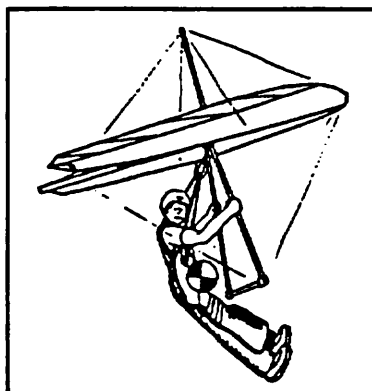

Figure 56
b) Improper body position - pilot leaning back, (away from the anticipated hard landing), with feet extended in front. (Figure 56) This moves the pilot's center of mass forward ahead of his shoulders, effectively shortening the pilot's arms and reducing flare authority. The proper position is with the pilot's body inclined forward, with the shoulders out ahead of the pilot's center of mass. Thinking about pushing "up" instead of "out" when flaring may help you to maintain the proper forward inclined body position.